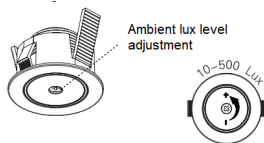

Fig. 5
- Select the required ambient light level via the potentiometer on the front of the sensor (see Fig. 5). When set to minimum, it will start to dim the light as the ambient lux level rises above 10 lux. When set to maximum, it will start to dim the light as the ambient lux level rises above 500 lux